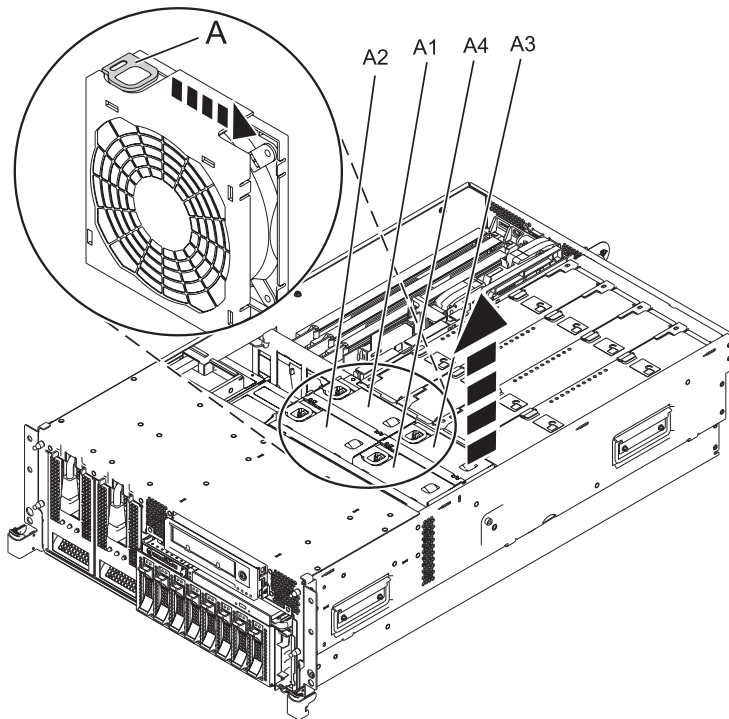

Figure 1. Removing the fans
- a. While squeezing the latch (**A**), reach through the hole of the fan and pull the fan out of the fan cage. see Figure 1.